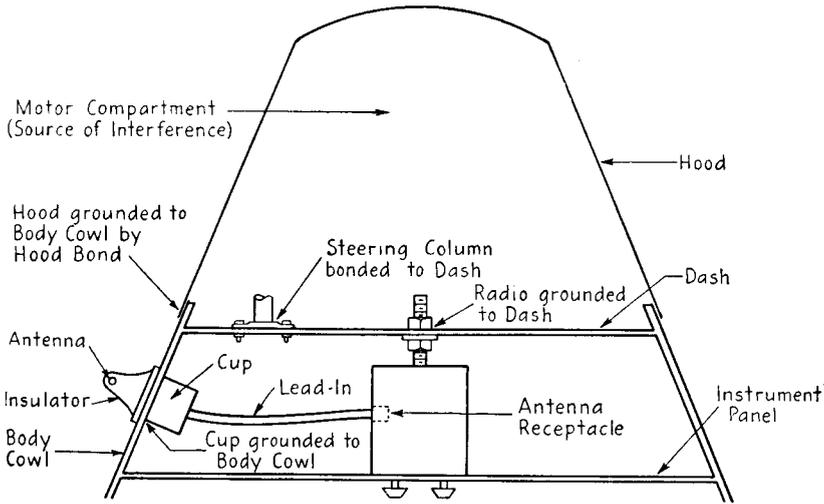

FIG. 20-7. Top view of automobile radio installation.
**Reduction of chassis pickup.** The radio itself is thoroughly shielded by its container so that there will be no pickup of signal (motor noise or otherwise) from any source but the antenna. Figure 20-7 shows a top view of a typical installation. The mounting nut that holds the radio to the dash provides the ground for the radio. The installation man should carefully remove paint from under the nut so as to make sure of this ground contact. Another good ground contact is established at the antenna end of the shielded lead-in wire. The cup that encloses this contact usually has a serrated surface, which makes good contact to the body cowl when the antenna assembly is tightened in place.